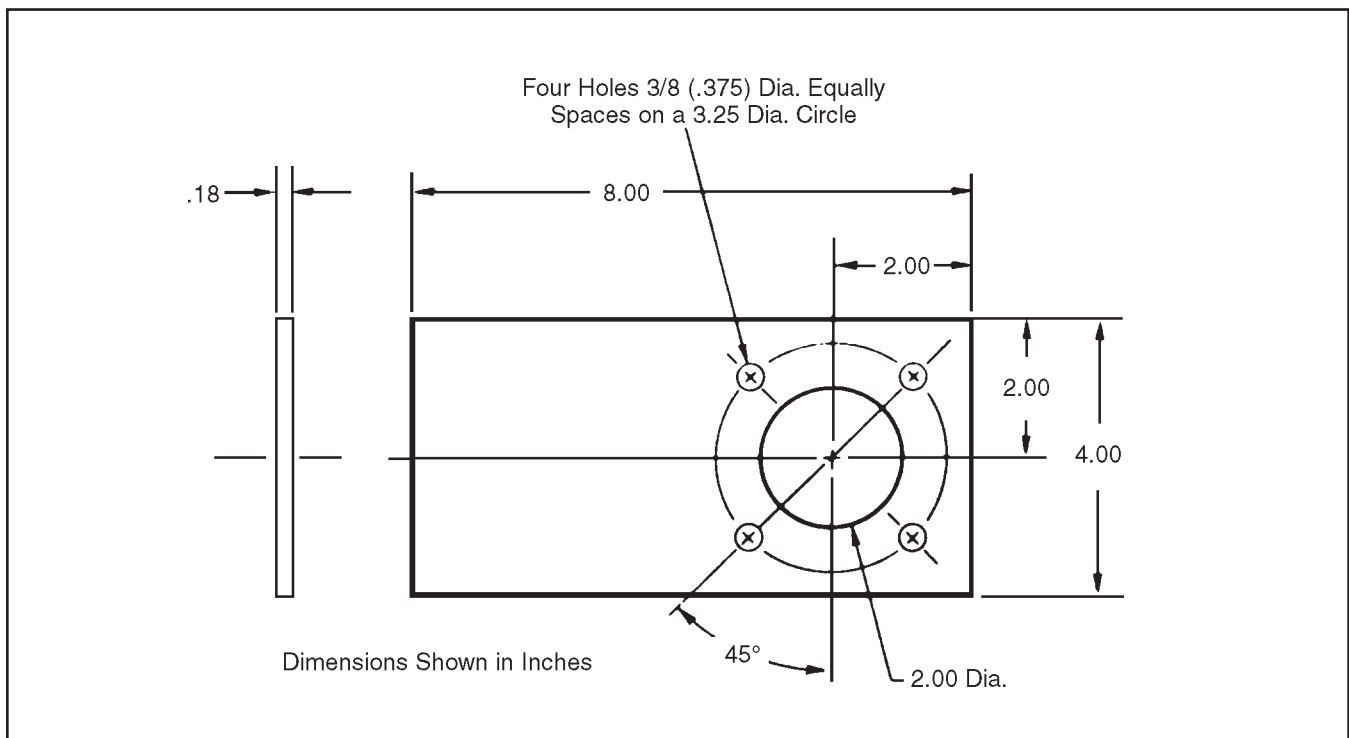

Figure 6A-1. Service Fixture
Service fixture for Power Steering Unit (see Figure 6A-1).
1. Securely place the power steering service fixture in a vise (see Figure 6A-1).
2. Remove port cover nuts (1) and port cover (2). Note position of relief valve assembly (5).
3. Carefully remove port manifold (6). Be prepared to catch three springs (7). Remove springs.
4. Remove valve ring (8), valve plate springs (10) and valve plate (9).
5. Remove hex drive (11) and isolation manifold (13).